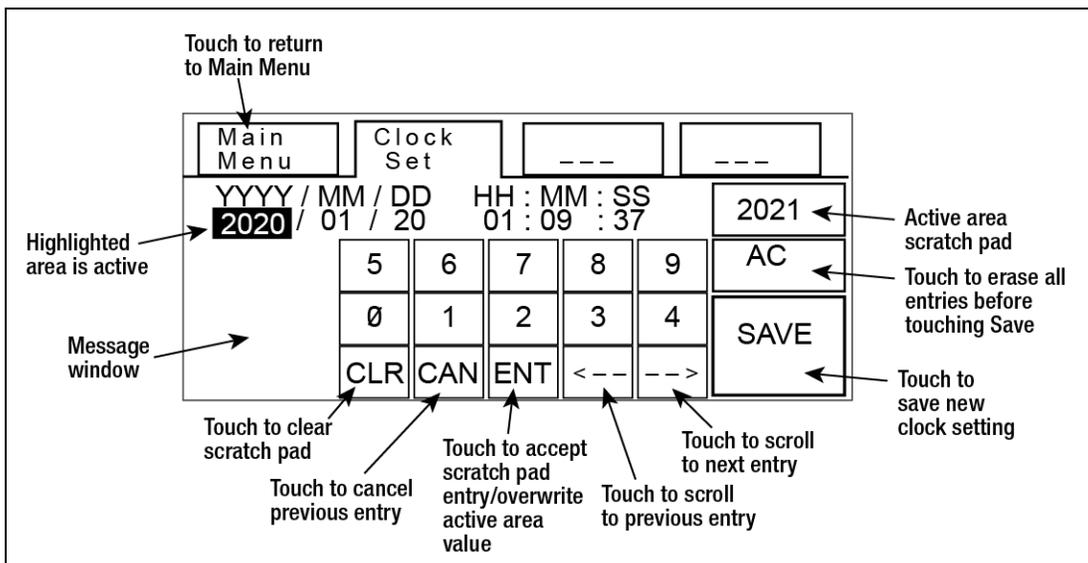

Figure 26. Clock Set Page
- On the Clock Set page, observe the button functions in Figure 26 to reset the date and time. Touch the number buttons to enter date/time.